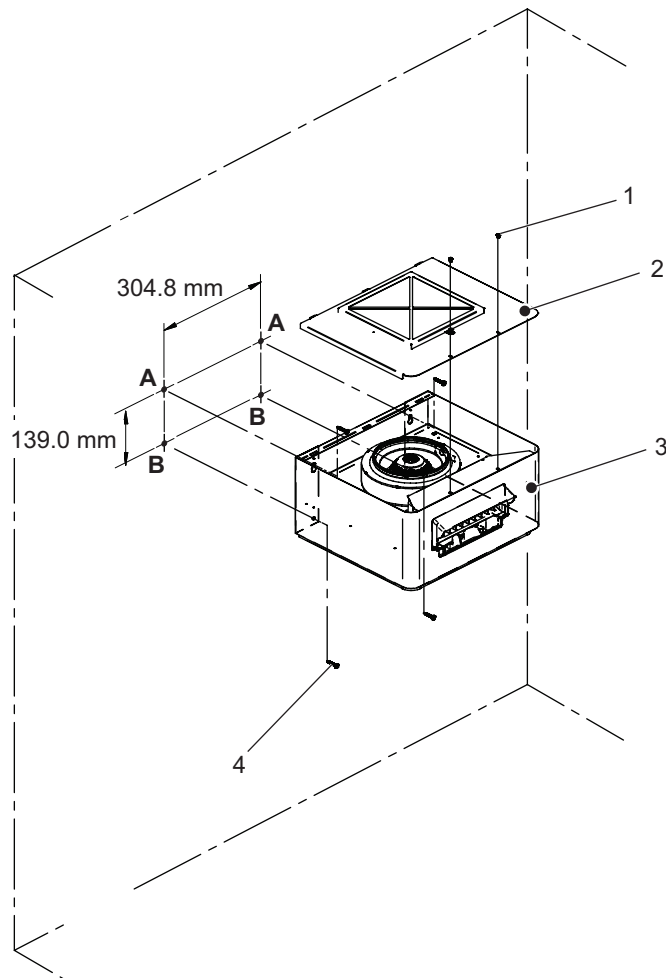

Figure 11: Wall-Mounted Blower Pack
- Locate suitable supports in the wall or mounting surface that are capable of supporting the full weight of the blower pack, and mark the attachment points "A" and "B" at the desired position with the help of a level – refer to *Figure 11*.